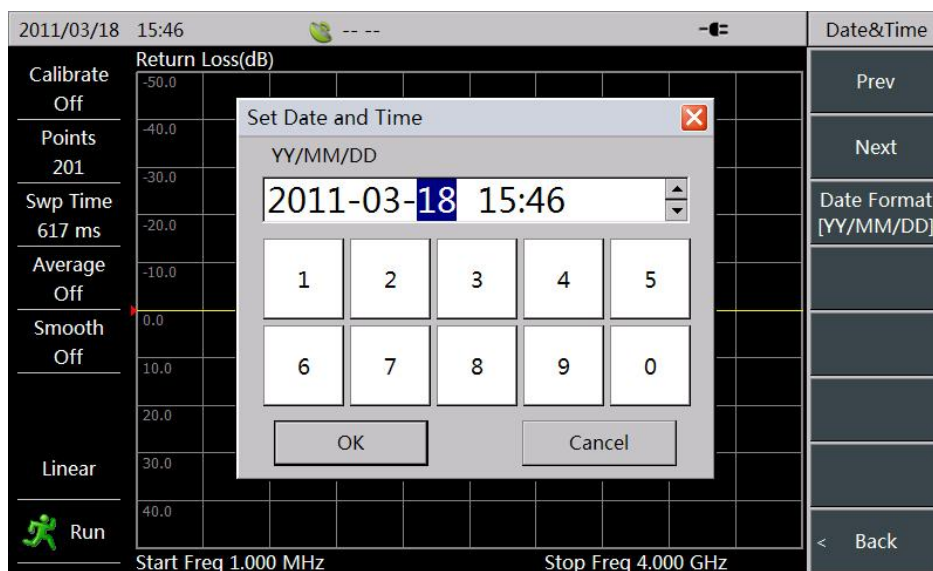

Figure 6-11 Date and Time Setting
- Click [Date & Time] menu to bring up a dialog box of “Set Date&Time”. You may edit it with [Prev], [Next], knobs or selecting the content to be edited by clicking directly. Input modified value via keypad, 【↑】 【↓】 keys, or numeric keys. Click “OK” key on dialog box or press 【Enter】 to complete date and time setting. As shown in Figure 6-11: